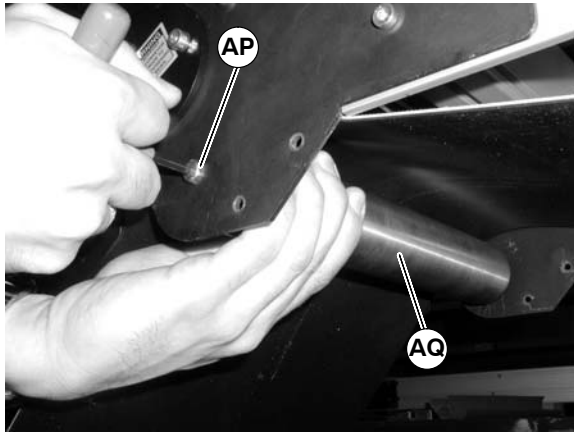

Figure 25
- Push in hex posts (AP of Figure 25) and remove pulley (AQ).